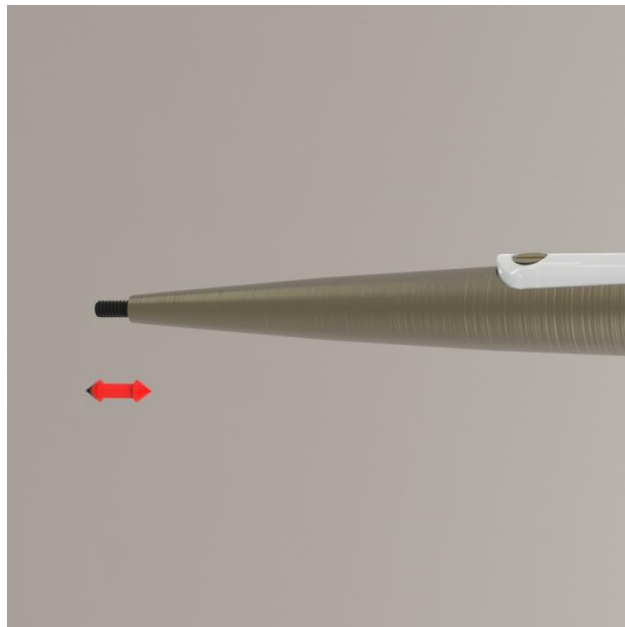

Figure 13
- If screw hole on shade does not properly align with the tapped hole in the tapered rod, remove shade and adjust set screw on tip of rod (Figure 13).